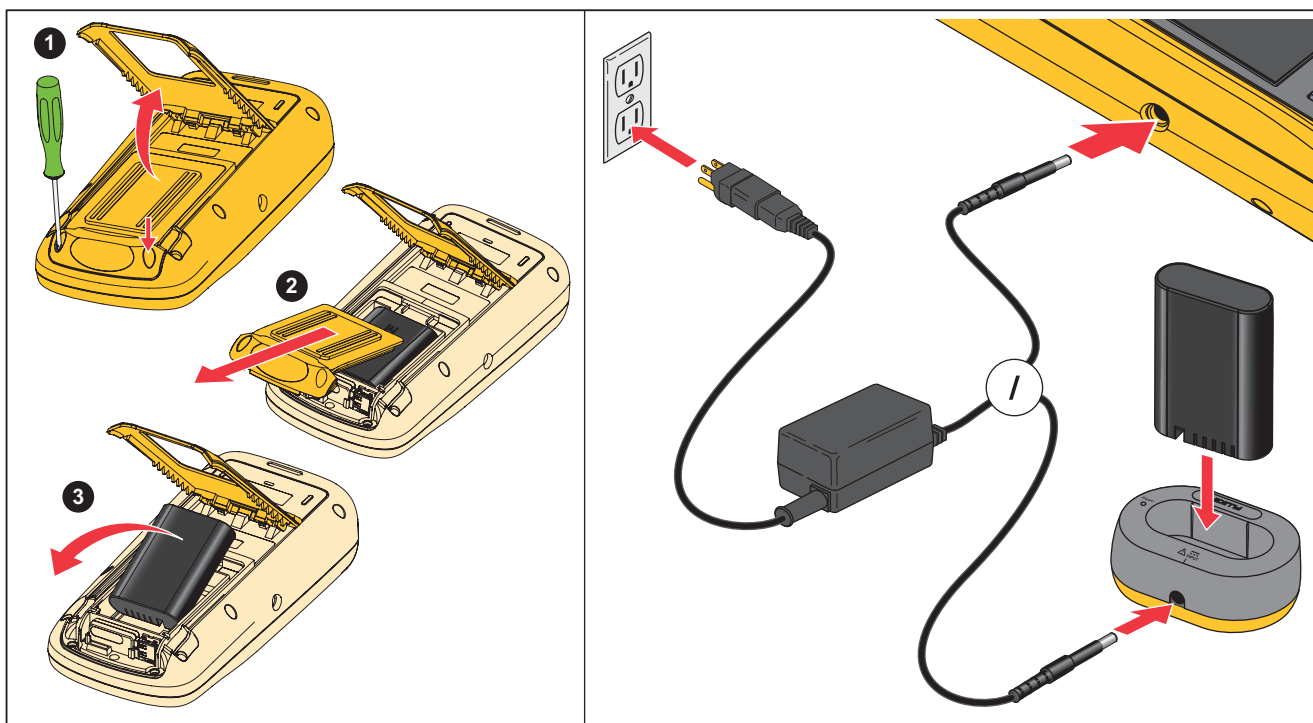

Figure 14. Battery Replacement/Charge
3. Unlock the battery cover. See Figure 14.
1. With the bail open, press sideways on the bail until one of the pivots pops out. See Figure 14.